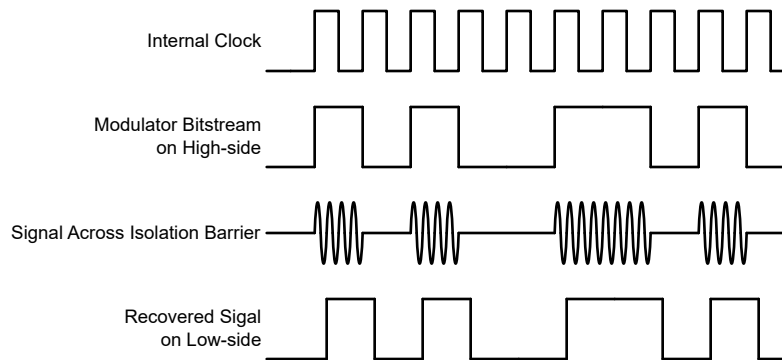

Figure 7-1. OOK-Based Modulation Scheme
As shown in Figure 7-1, the AMC0381R-Q1 uses an on-off keying (OOK) modulation scheme to transmit the modulator output bitstream across the SiO₂-based isolation barrier. The transmit driver (TX) is illustrated in the Functional Block Diagram. TX transmits an internally generated, high-frequency carrier across the isolation barrier to represent a digital one. However, TX does not send a signal to represent a digital zero. The nominal frequency of the carrier used inside the AMC0381R-Q1 is 480MHz.